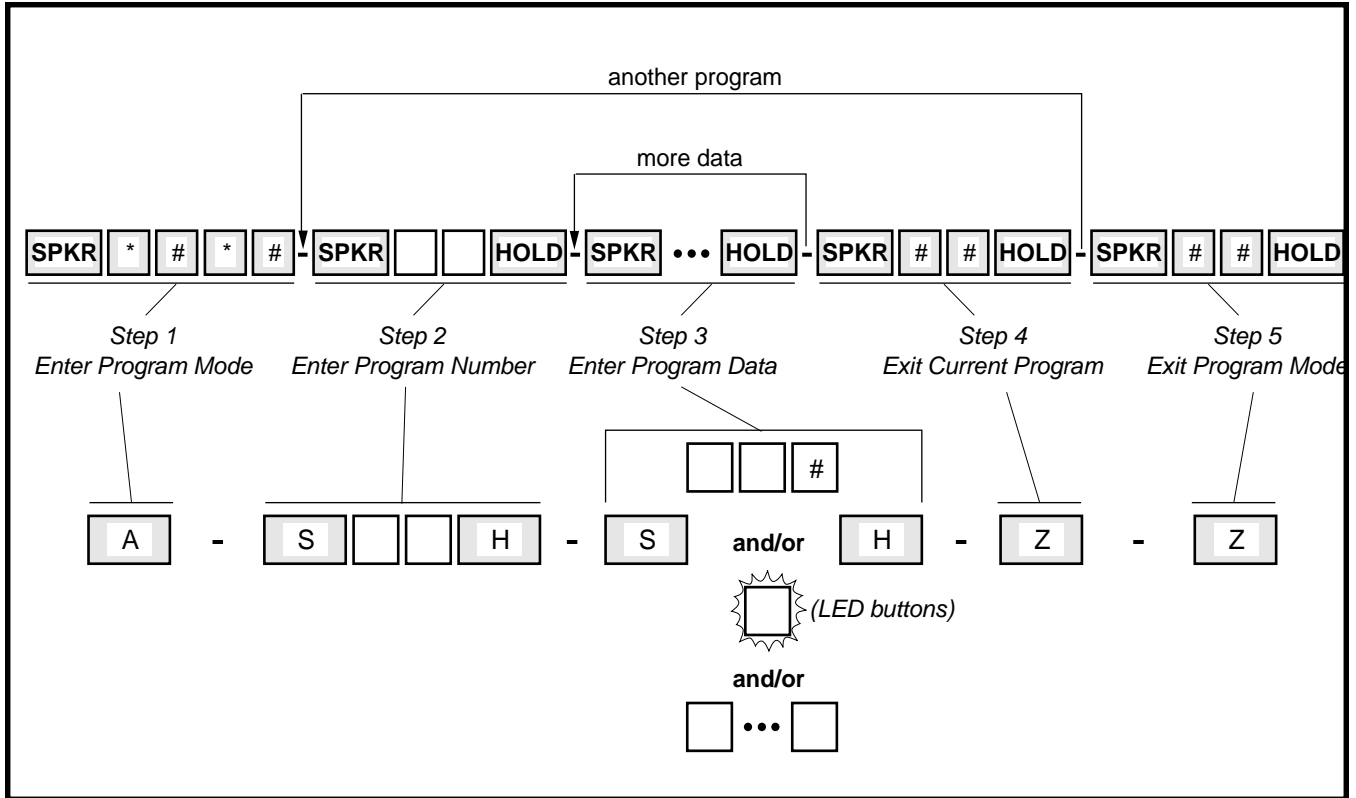

FIGURE 1-1—PROGRAMMING BUTTON SEQUENCE OVERVIEW
step process described below and illustrated in Figure 1-1. *Button (key) sequences that stay the same for every program are abbreviated and shaded on each record sheet.* Button sequences that are unique for every program are white.
3.12 Each System Record Sheet has the abbreviated button sequence shown in Figure 1-1 for its program illustrated at the top of the sheet.
3.21 There are two different ways to enter data in Step 3 (Figure 1-1) of a program: pressing the buttons on the dialpad and pressing the LED buttons. Many programs are multidimensional and involve both types of entry.